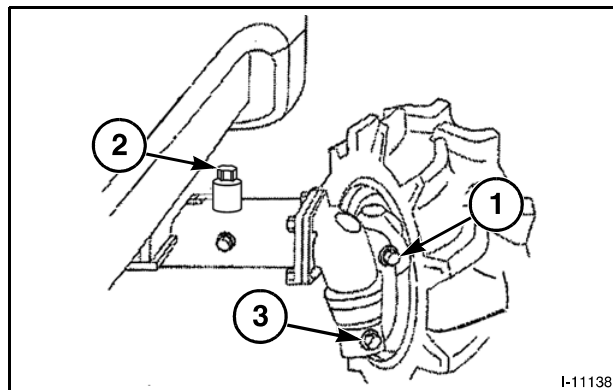

FIG. 131
FIG. 131: Park the tractor on level ground and shut off the engine. Remove the oil level plug (1). The oil level must be at or slightly below the level plug opening. If the oil is low, remove the fill plug (2) and add oil until oil is at the level plug opening. Replace the oil level and fill plugs.